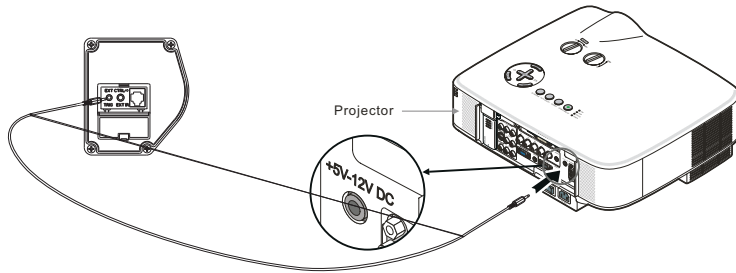

Figure 22
1. Insert one end of the trigger wire into the trigger jack located on the left side of the screen casing's end cap labeled "TRIG" (figure 22). Insert the other end into the 12V output.